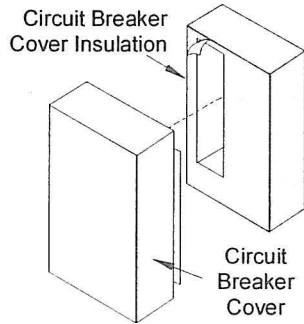

Figure 2
1. Remove backing form insulation (Figure 2).